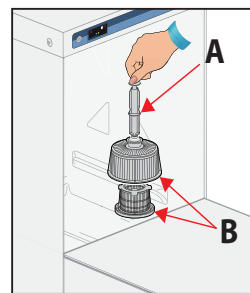

FIG. 2
2. Leave the machine switched on. Open the door and remove the OVERFLOW PIPE (A) Fig. 2
DO NOT REMOVE THE GREY PLASTIC FILTERS (B) FIG. 2. THESE PREVENT SCRAPS OF FOOD GOING DOWN INTO THE DRAIN PUMP.
3. Press and hold the DRAIN PUMP button (3) for 1 second
5. Remove grey plastic PUMP FILTER (B) Fig. 2 and wash under running water and refit the filter and OVERFLOW PIPE (A) Fig. 2